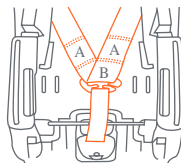

Fig. 30-2
8. Reassemble the Harness Straps to the Belt Adjuster Plate. Do the left Harness Strap first, followed by the right Harness Strap. Check that Harness Straps are completely within the Belt Adjuster Plate loop (Fig. 30-2). You have two adjustment positions on the harness. Use Position A for a smaller child, and Position B for a larger child. If using Position A, loop B must be on top of the Belt Adjuster Plate. (Fig. 30-3)